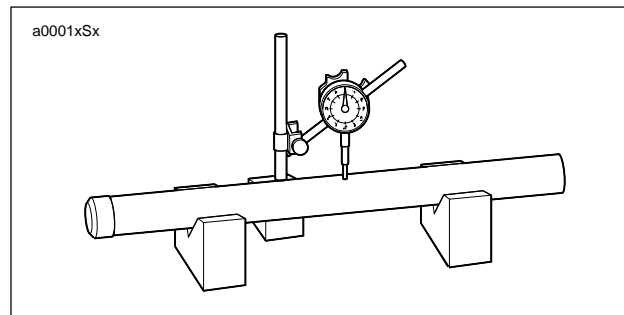

Figure 2-78. Pipe Runout
7. See Figure 2-78. Measure slide pipe runout. Replace pipe if runout exceeds the service wear limit of 0.008 in. (0.2 mm).